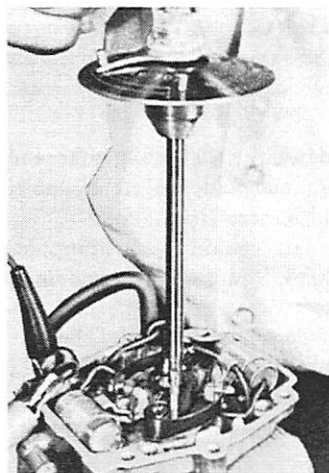

Figure 5.
5. Check spring tension setting with Spring Tension Gauge (91-29406). Place end of tool over breaker assembly and turn toward breaker point spring to 33-37 oz. tension. (Figure 5)